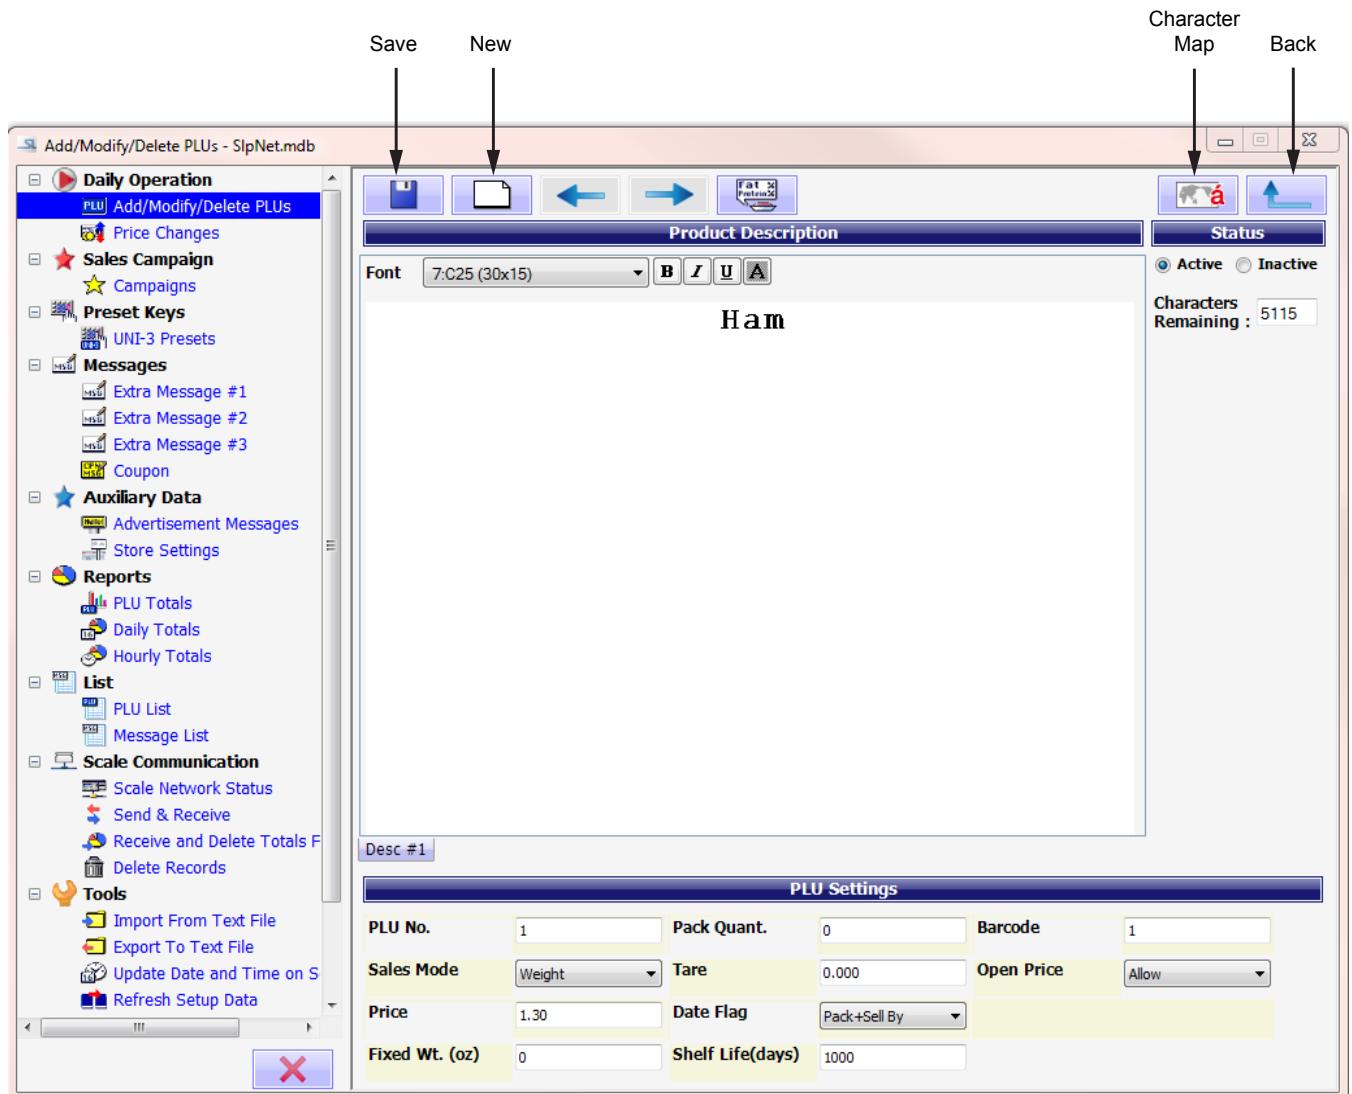

Figure 13-1
2. Select the New button. The PLU screen will display. See Figure 13-1.